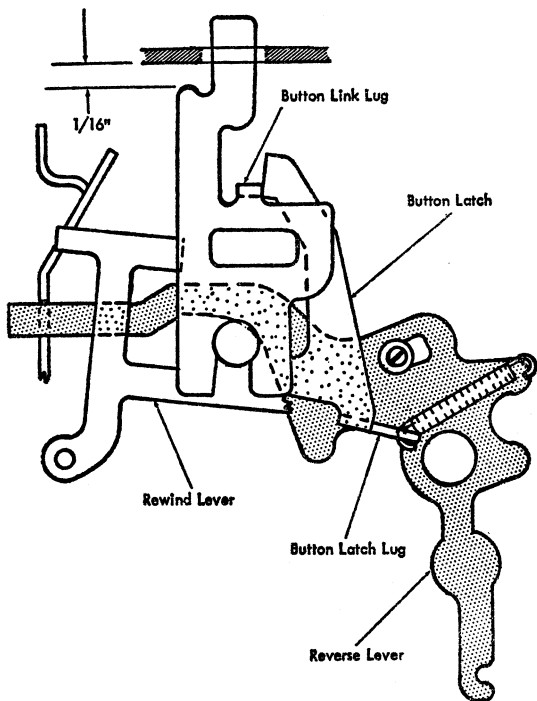

Figure 45. Button Latch Lug Adjustment
15. BUTTON-LATCH LUG. Latch the reverse lever and hold the drive shaft to prevent movement. Form the button-latch lug so the button latch cams off of the button link when the button link is raised to a point $\frac{1}{8}''$ from its upper limit of travel (Figure 45).